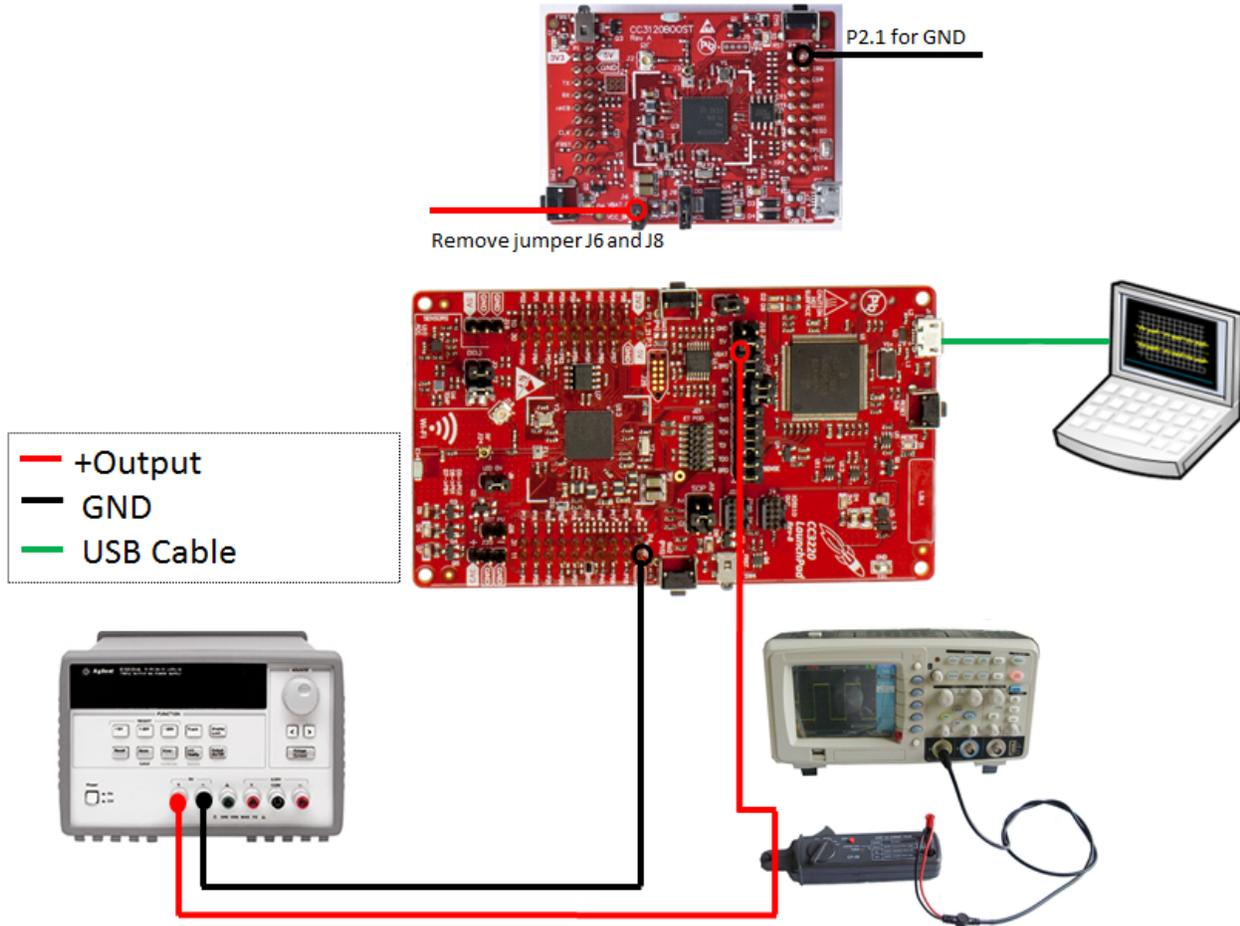

Figure 2-13. Oscilloscope With Current Probe Test Setup
4. Execute the code and measure the current using the oscilloscope. For reference, Figure 2-13 shows the full overview.